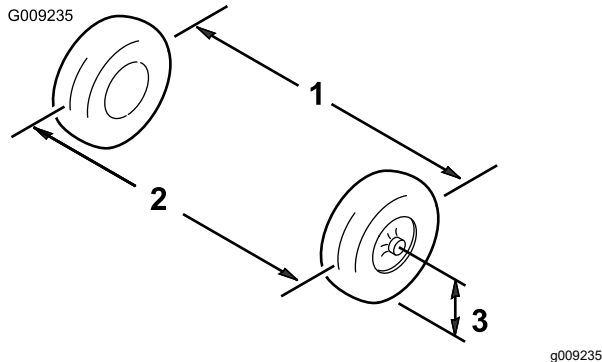

Figure 48
2. Measure the distance between both of the front tires at the axle height at both the front and rear of the front tires (Figure 48).